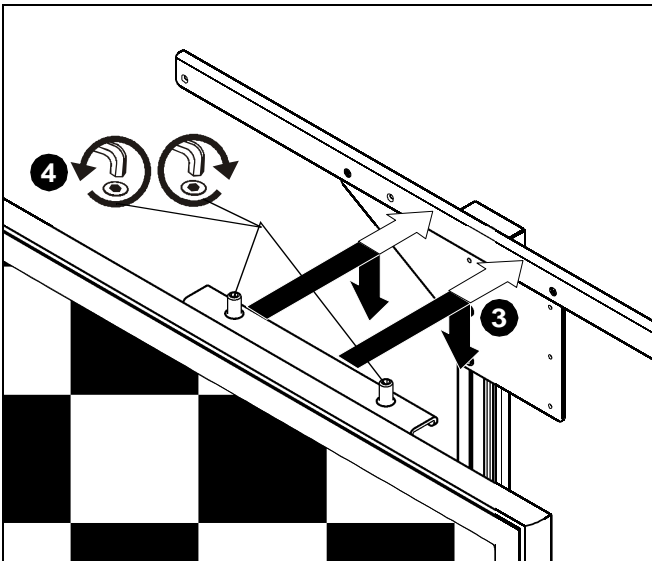

Figure 12
3. Center and hang art with attached art bracket (D) on upper rail (A). (See Figure 12)
4. Adjust and level art by loosening or tightening set screws (R) in top of art bracket, as required. (See Figure 12)